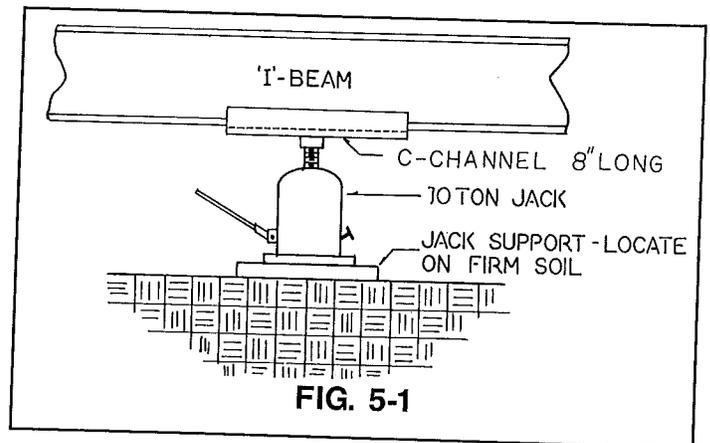

FIG. 5-1
2. Use a minute man C-Channel jacking plate or equivalent between jack and steel "I" beam to distribute the concentrated loads. (See Figure 5-1)